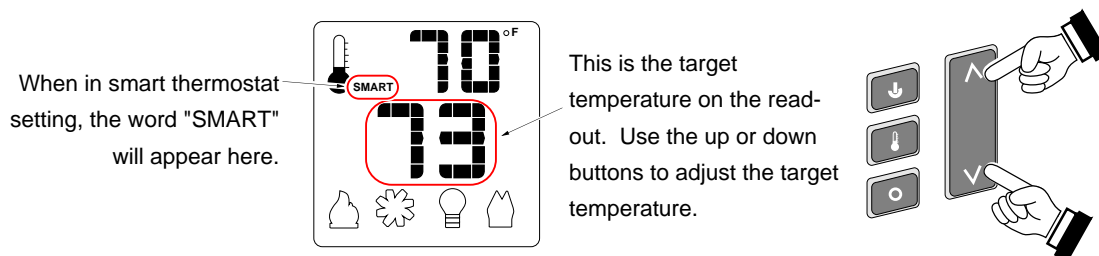

Figure 8
- **SMART THERMOSTAT** – While in smart thermostat, the transmitter will control the burner to achieve the target temperature (see Figure 8 below). Flame height will be adjusted up or down to allow operation without turning the burner on and off (also called “smart modulation”). To adjust the target temperature, press the UP and DOWN buttons until a suitable temperature is achieved.